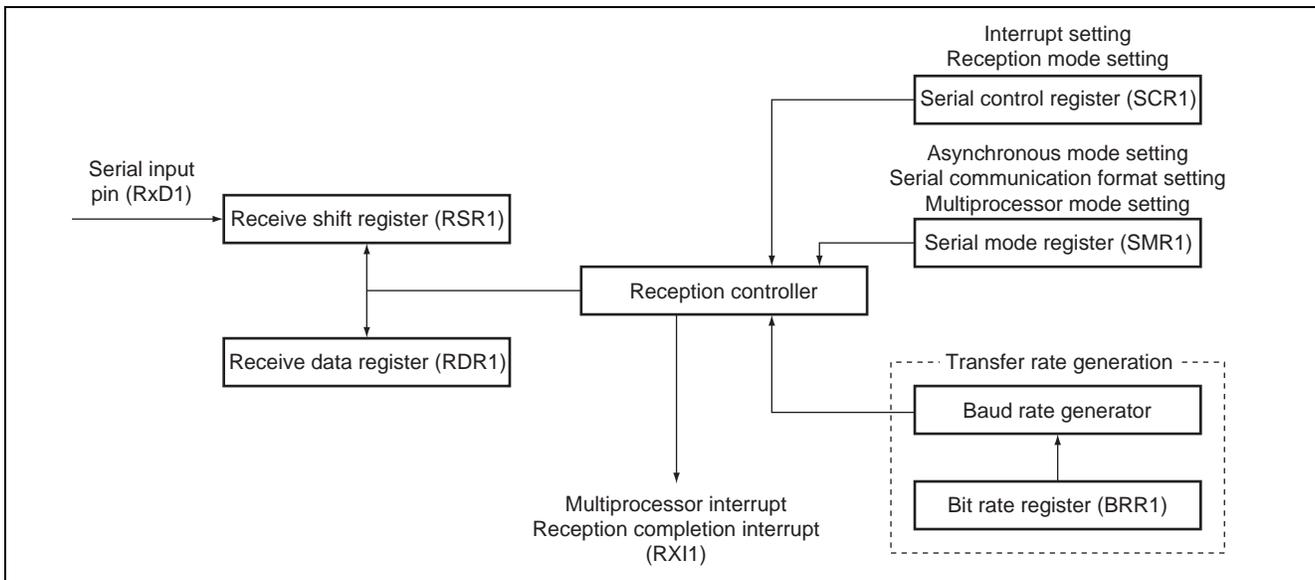

Figure 3 Block Diagram of Receiving Station SCI
B. The block diagram of the receiving station SCI used by the sample task is shown in figure 3. This sample task uses the following SCI functions for reception: